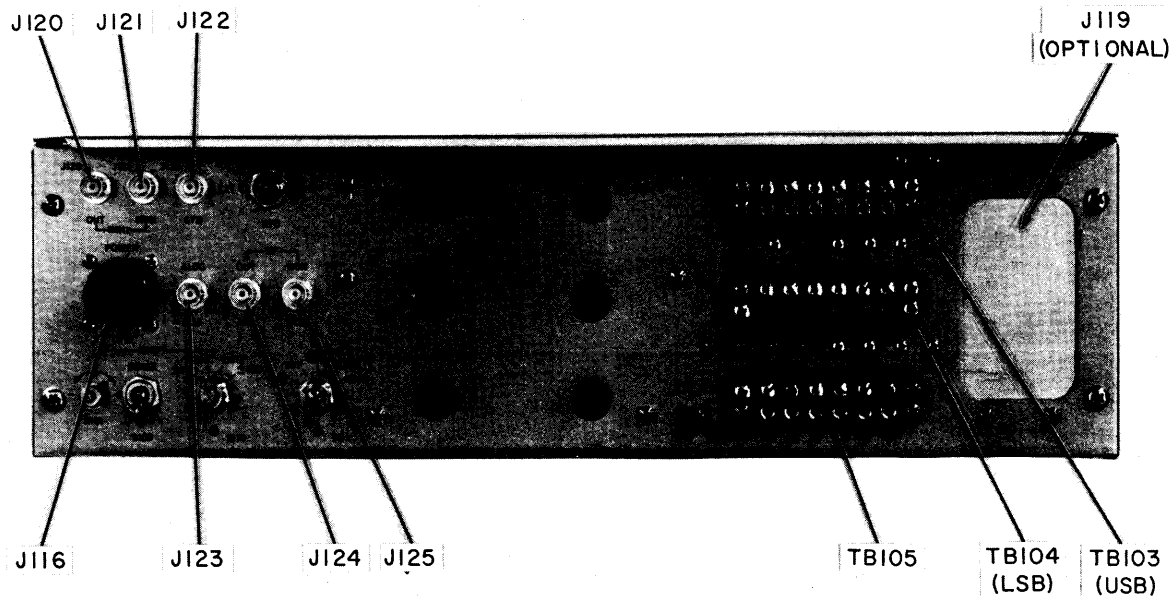
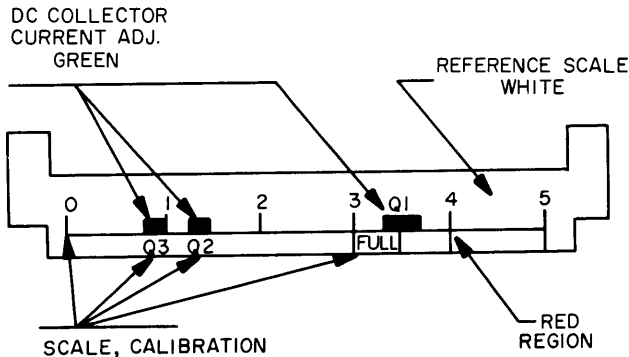

Figure 2-2. Rear Panel Connectors
Figure 2-3. Front Panel Monitor Indicator
All electrical connections between the Exciter and associated equipment are made at the rear of the unit. Figure 2-2 illustrates all rear panel connections, while table 2-1 lists the panel designation and function of each connection.
2-5. INITIAL CHECKOUT PROCEDURE (See figures 2-2 and 2-3.)
- a. Set ON/STANDBY switch (9) to STANDBY position.
- b. Connect source of 115 vac line power to connector J116 (figure 2-2). STANDBY indicator (8) shall illuminate amber.
- c. Position RF OUTPUT control (1) fully counterclockwise.
- d. Using frequency selector switches (14), set output frequency to 29.9999 MHz.
- d. Position CARRIER control (13) fully counterclockwise.
- f. Position MODE switch (12) to ISB.
- g. Position EXCITER Switch (11) to ON
- h. Set MIKE/LINE controls (4) and (6) to 0.
- i. Position METER switch (2) to Q1.
- k. Position ON/STANDBY switch (9) to ON. STANDBY indicator (8) shall extinguish and POWER indicator (10) shall illuminate red.
- l. Verify the MONITOR meter (5) is in the green region marked Q1. (See figure 2-3.)
- m. Set METER switch (2) to Q2. MONITOR meter (5) shall indicate in the green region marked Q2. (See figure 2-3.)
- n. Set METER switch (2) to Q3. MONITOR meter (5) shall indicate in the green region marked Q3. (See figure 2-3.)
- o. Set METER switch (2) to RF; MONITOR meter (5) shall indicate zero with RF OUTPUT control (1) fully counterclockwise.
- p. Connect a VTVM (Hewlett-Packard Model 410B, or equivalent) to RF OUT jack J124 (figure 2-2) across a 47-ohm load resistor.
- q. Adjust RF OUTPUT control (1) for a minimum indication of 3.5 volts on VTVM.
- r. Set METER switch (2) to USB and adjust USB MIKE/LINE control (6) for an indication of 2/5 full scale on MONITOR meter (5).
- s. Set METER switch (2) to LSB and adjust LSB MIKE/LINE control (4) for an indication of 2/5 full scale on MONITOR meter (5).
- t. Set METER switch (2) to CARR position. MONITOR meter (5) shall indicate zero.
- u. Rotate CARRIER control (13) slowly clockwise; MONITOR meter (5) indication shall increase to FULL when CARRIER control (13) is fully clockwise.
- a. Connect a source of 115 vac, single-phase power to connector J116 (figure 2-2). Observe that STANDBY indicator (8) illuminates amber.
- b. Make necessary interface connection on rear panel jack (figure 2-2).